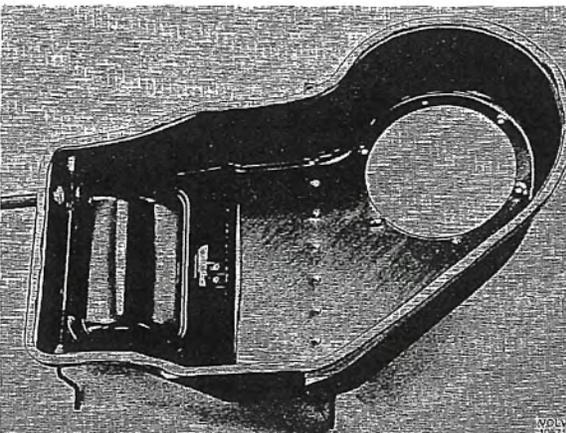

Fig. 8-56. Sealing heater joint
3. Where needed, apply new sealing compound. Place it in the joint between both the halves of the heater before screwing them together (see Fig. 8-56).